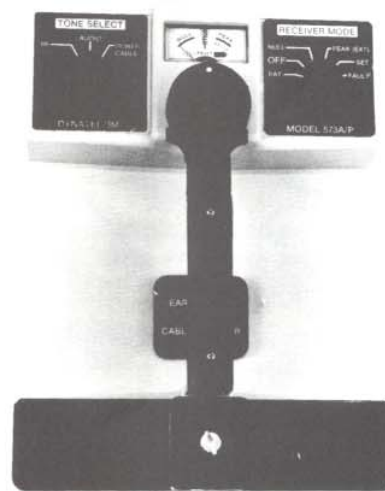

Fig. 11 — 573A/P Receiver Unit
- (b) The 573A/P RECEIVER operating panel (Fig. 11) has two selector switches flanking a level reference meter and sensitivity control. The system frequency is selected by the TONE SELECT switch, and the RECEIVER MODE switch controls the receiver operating modes.